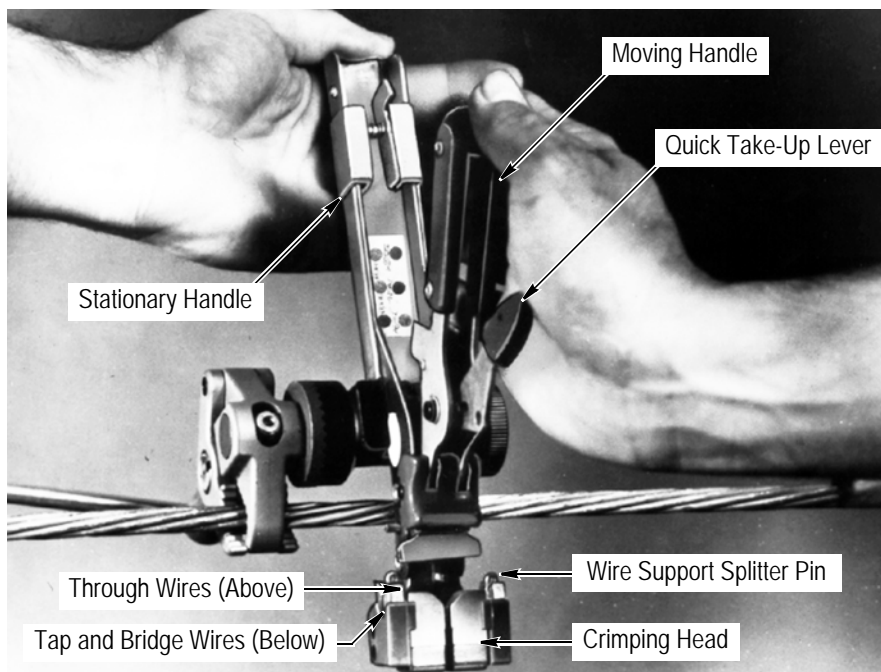

Figure 2
#### 4. HAND TOOL OPERATION (See Figure 2)
2. Support the stationary handle of the tool with one hand. Then depress the quick take-up lever and squeeze the moving handle with the other hand until the moving handle bottoms. Refer to Figure 2.